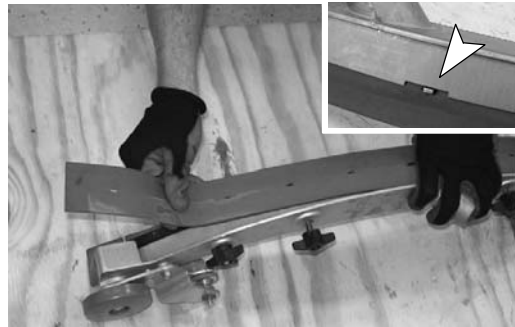

FIG. 51
3. Rotate the rear blade to a new wiping edge and reinstall the band. Make sure the notched edge of the band is facing downward (Figure 51).